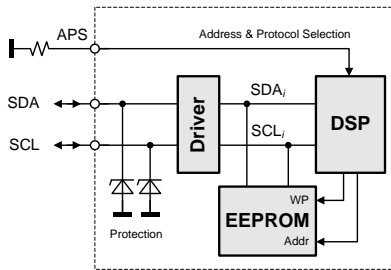

*Figure 35. I2C address and protocol setting*
1) E12 resistor values, use max 5% resistors, see also *Figure 35*.